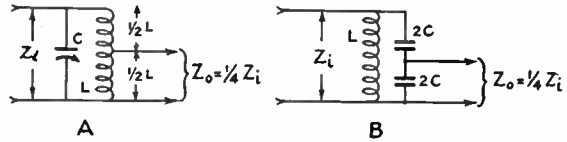
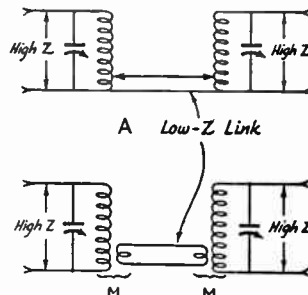

Fig. 317 — Methods of tapping the parallel impedance of resonant circuits for impedance matching.
Fig. 318 — Methods of using link coupling for impedance matching.
In addition to impedance matching by inductive coupling with tuned circuits, frequent use is made of tapped resonant circuits. Two methods for parallel resonant circuits are illustrated in Fig. 317. In one case (A) the tapping is across part of the coil, while in the
Another coupling arrangement used for impedance matching radio-frequency circuit is that known as *link coupling*. It is used for transferring energy between two tuned circuits which are separated by space so that there is no direct mutual coupling between the two coils. It is especially helpful in minimizing incidental capacitive coupling between the two circuits due to the distributed capacitance of the windings, thereby minimizing the transfer of undesired harmonic components of the desired fundamental. Two typical versions of link coupling are shown in Fig. 318. Both represent an impedance step-down from one tuned circuit to the coupling line, and then an im-
The arrangement of Fig. 318-A will be recognized as an adaptation of the impedance-tapping method previously shown in Fig. 317-A. It is sometimes called auto-transformer link coupling, because the link turns are also included in the tuned-circuit turns. The arrangement of 318-B differs only in that the link turns are separate and inductively coupled to the tuned-circuit turns. The latter system is somewhat more flexible in adjustment than the tapping method, since the coupling at either end of the line can be adjusted in small steps by moving the link turns with respect to the tuned-circuit coils.